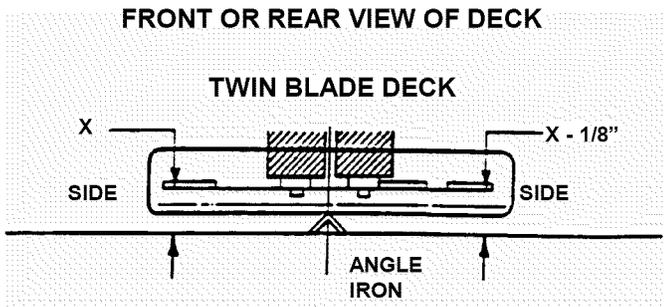

FIGURE 4.7
- e. Measure the distance from blade tips to floor. If the measurement is within $1/8"$ from side-to-side, the deck levelness is satisfactory. If the difference from side-to-side is greater than $1/8"$, continue to the Step "f" for adjustment. See Figure 4.7.